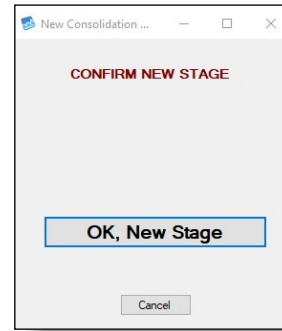

Figure 11: New Consolidation Stage Dialog Box
7. To start a new consolidation stage, click **New Stage**, apply the appropriate load then click **OK, New Stage** (Figure 11).